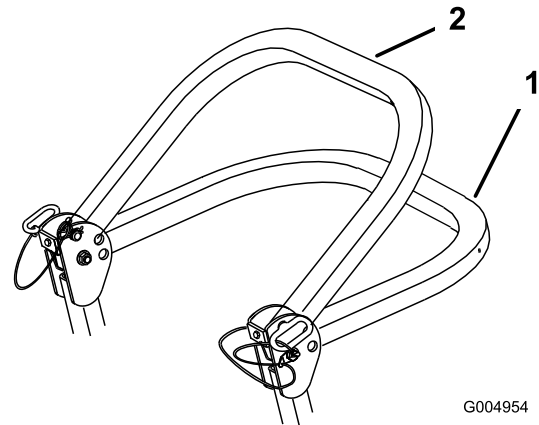

Figure 7
2. Lower the roll bar to the down position. There are two down positions. See Figure 7 for the positions.